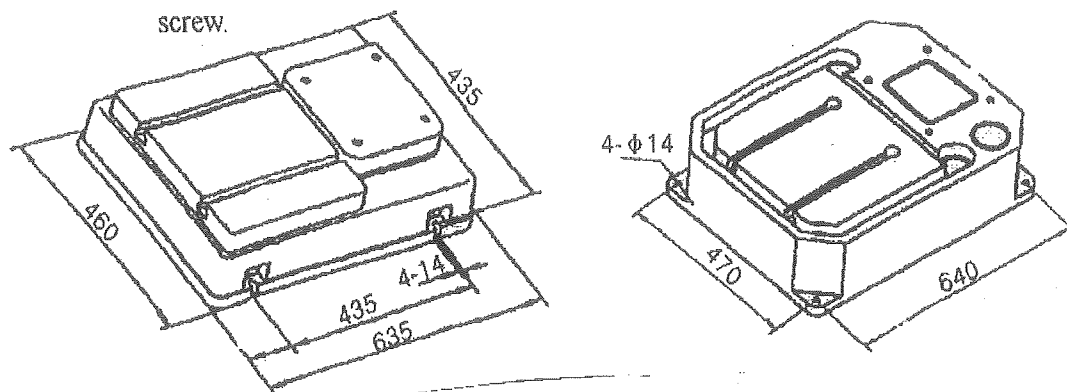

Fig.1
- If the machine haven't the stand. Then you should drill holes on the base table as the machine measurement diagram (See fig.1). Then fix it on the baseboard by screw.